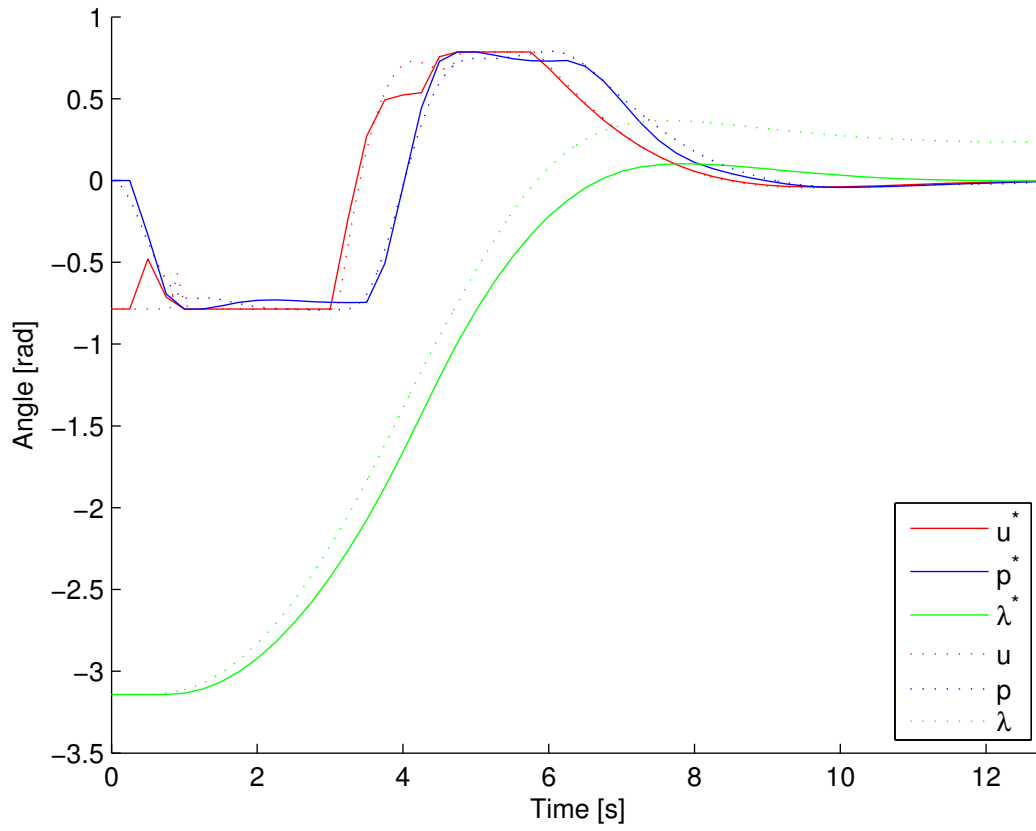

Figure 2: Optimal vs. measured trajectory and input sequence.
(8) is solved using MATLAB's quadprog. The optimal input sequence u^* is applied to the plant in an open loop with results show in figure 2, with the measured trajectory compared to the calculated optimal trajectory x^* .
To eliminate the discrepancy between the optimal and measured trajectory observed in figure 2, we can update the optimal trajectory for every time step with a state feedback term weighted by a suitable gain matrix: